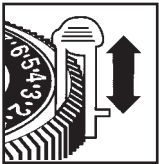
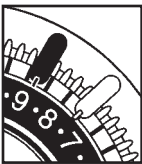

Figure 1
Figure 2
- 1. Insert ON (green) and OFF (red) trippers into dial at desired ON and OFF times (Fig. 1). Be sure trippers are firmly pressed against dial surface and at least one space is left between ON and OFF trippers (Fig. 2).